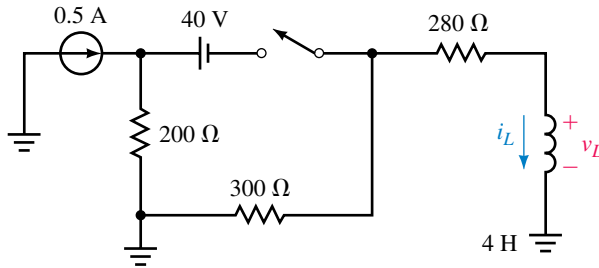

FIGURE 14–47
26. Repeat Problem 23 for the circuit of Figure 14–47, except find v_L and i_L at $t = 13.8$ ms.